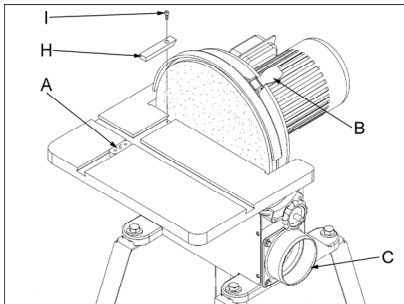

Fig 6
The centre point (A, Fig 6) provided with the machine can be used for circular sanding. Adjust the radius and tighten the set screws.
The filler bar (H, Fig 6) should be added when sanding small workpieces. Secure in place with the socket head cap screw (I). When not using the filler bar thread the socket head cap screw in the tapped hole as a stop.